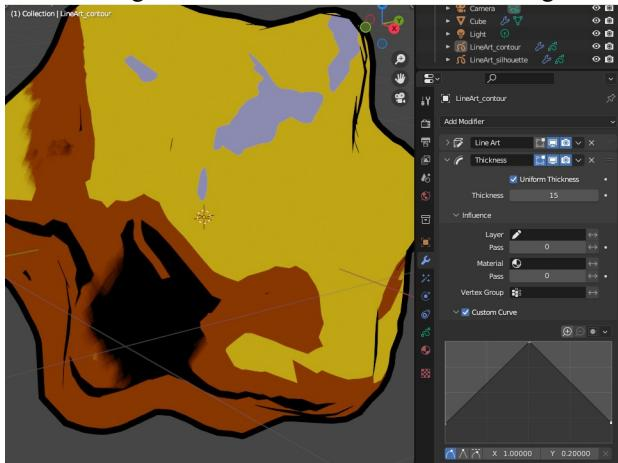

Figure 13-6 Line Art settings.
5. Add a new line art object using **Add ▶ Grease Pencil ▶ Object Line Art** as above, and rename it LineArt_contour. If you didn't first select the Cube object you will need to first change the Object value in the Modifier Properties tab to **Cube**. Add a second modifier with type Thickness, tick the Uniform Thickness check-box and reduce the Thickness to 15. Expand the Influence section, tick the Custom Curve check-box and create a profile that goes from small to big to small again. The settings and resultant lines can be seen in Figure 13-6